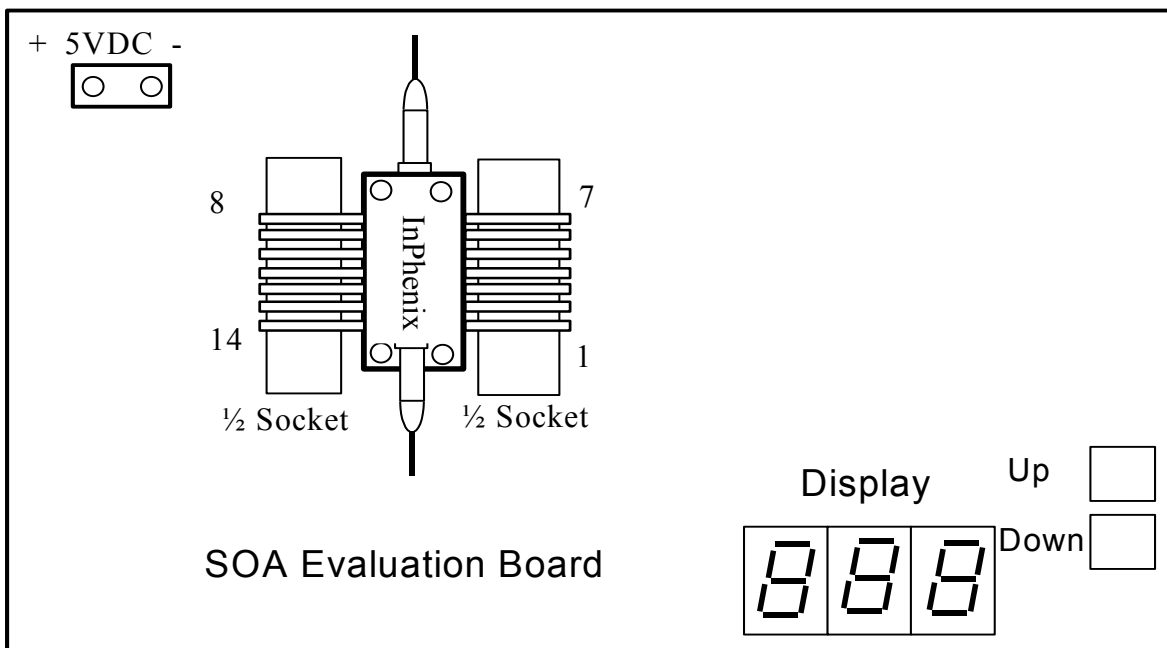

Figure 1.0
3. Turn off the power supply and connect it to the evaluation board as shown in Figure 1.0.